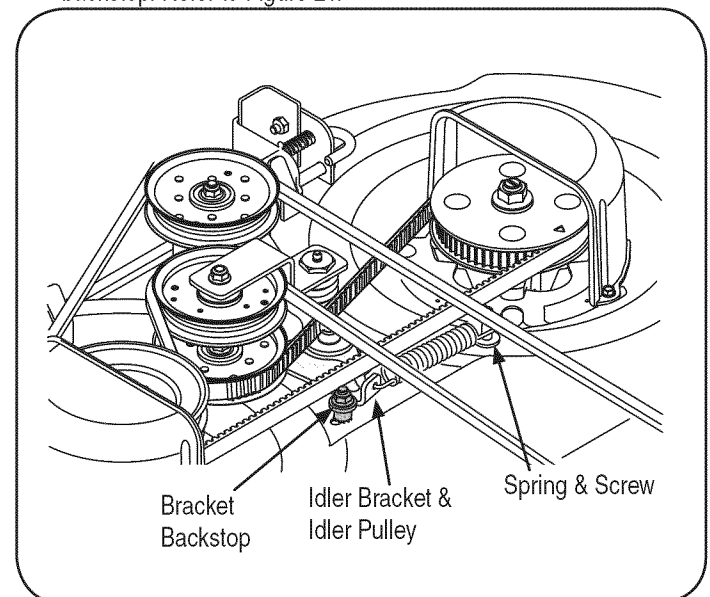

Figure 21
1. Remove the deck from the tractor. Remove the idler bracket backstop. Refer to Figure 21.
- Remove the hex screw, flat washer, lock washer, shoulder spacer, and flange lock nut that make up the idler bracket backstop. Refer to Figure 21 above.
- Applying force to either the timing belt idler pulley or the timing belt idler bracket, pivot and hold the idler bracket against the spring tension just far enough to allow lifting the timing belt off and above the idler pulley. Carefully release the idler bracket. See Figure 21.
- Repeat the above procedure to remove the belt from the left hand spindle assembly timing pulley. Refer to Figure 21.
- Loop the new timing belt and maneuver the belt between the drive pulley on top of the right hand spindle assembly and the spindle cover. Lower the belt until loosely around the right hand timing pulley. Refer to Figure 21.